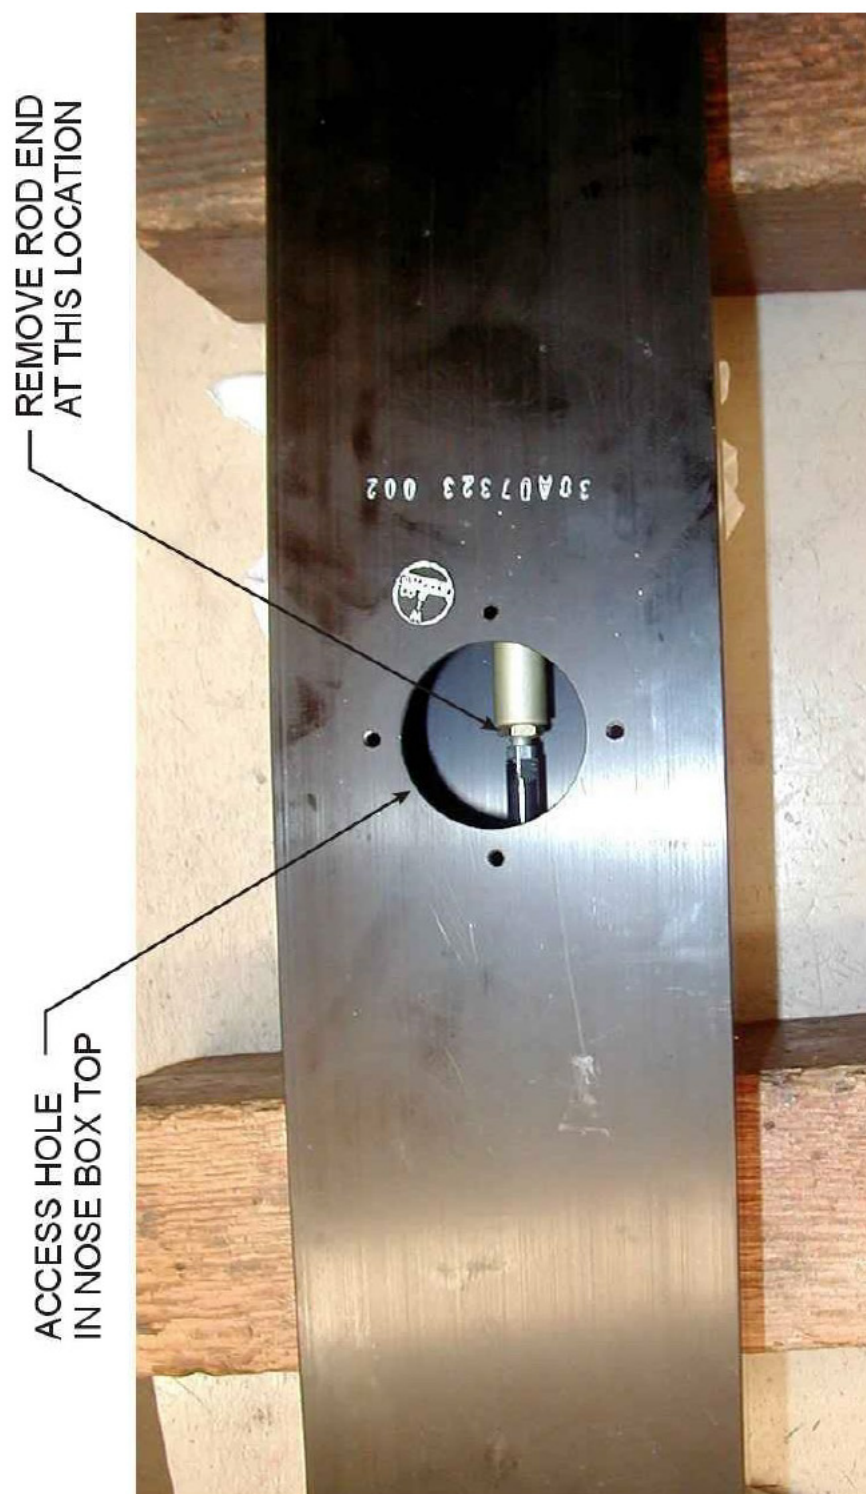

FIGURE 7-2 NOSE BOX ACCESS LOCATION
3. Remove round inspection cover on nose box top from above access (refer to Figure 7-2).
3. Slide trolley into nose box and reconnect to cylinder (refer to Figure 7-2).
7. Reinstall cover on Figure 7-2.